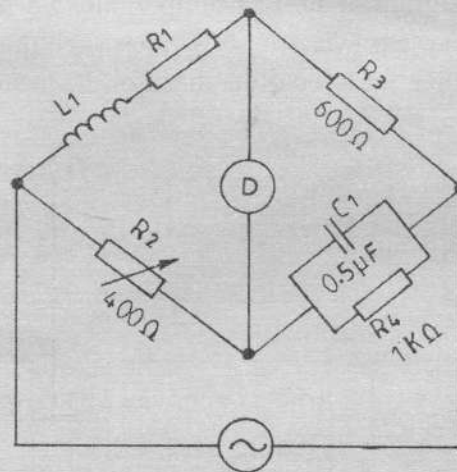

Fig. 1
- (ii) Show that one unit of charge (Q) in cgs electromagnetic units is equal to one unit of charge in MKS units.
- (i) charge (Q) in e.s.u;
- (ii) magnetising force (H) in e.m.u.
3. (a) Describe the procedure of measuring the depth of modulation of an amplitude modulated (AM) wave using an oscilloscope with the internal timebase switched off and sketch the displayed waveform. (6 marks)
- (ii) Figure 1 shows a circuit diagram of an a.c. bridge.
- (I) Derive the bridge equation at balance.
- (II) Determine the value of R_1 and L_1 .